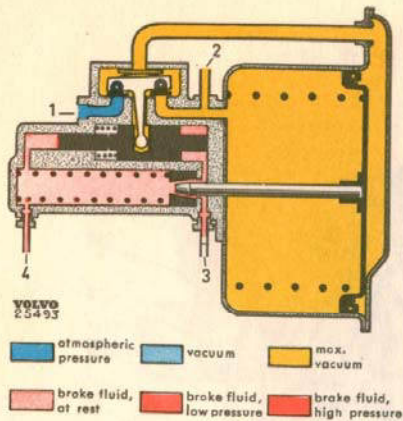

Fig. 7-6. Rest position
(1) where it is boosted. The pressure then moves out to the wheel unit cylinders (9 and 13) in which the plungers are pressed outwards and apply the brakes. The servo-brake cylinder functions as described below. Regarding the significance of the colors on the figures, see Fig. 7-6.
When the system is at rest (Fig. 7-6) the control plunger is kept pressed to the right so that the air valve remains closed and the vacuum valve open. The same vacuum therefore exists on both sides of the vacuum plunger which is kept pressed to the right by the return spring. When the pressure in the master cylinder rises, the hydraulic pressure in the servo-brake cylinder also rises to the same extent. Since the right-hand pressure surface of the control plunger is larger than the left, the plunger is moved to the left. When this happens the valve arm also moves, the vacuum valve closes, the air valve opens and air flows into the right side of the vacuum plunger.